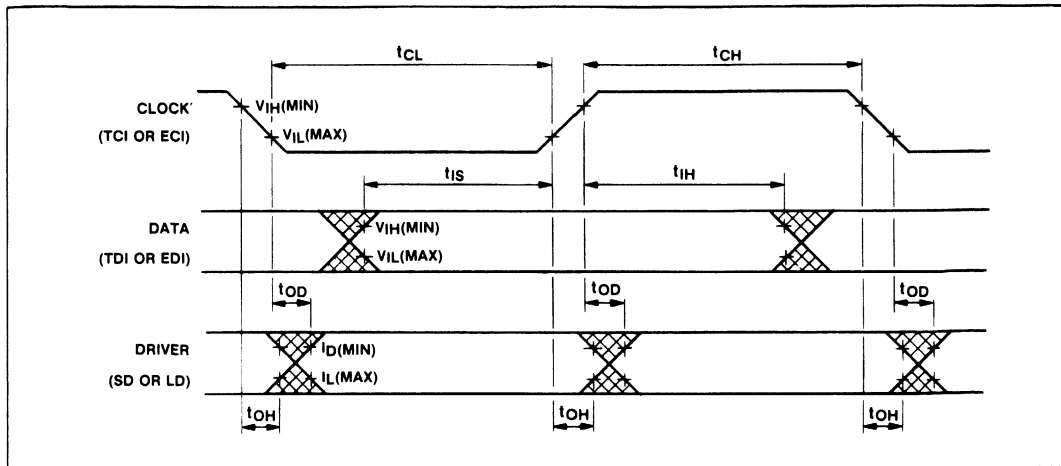

Fig.4 Digital switching characteristics
**Digital Switching Characteristics (see Fig.4)**